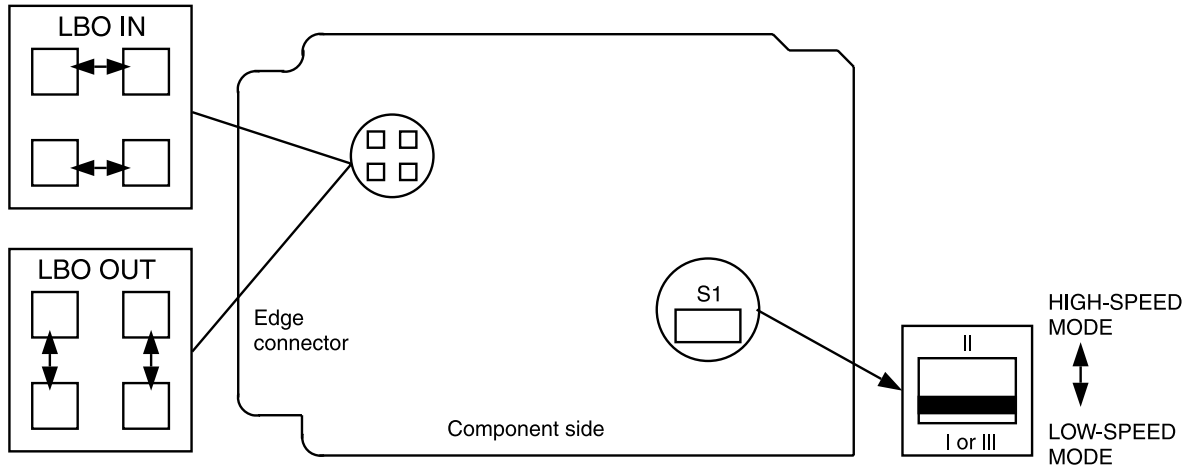

Figure 6 – BBG6 STS1E Option Settings
42. Install the **STS1E** option jumpers per Table L and Figure 6.